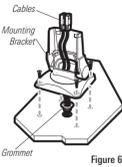

Figure 6
- 1a. If the cables must pass through a hole directly beneath the mounting bracket, mark and drill an additional 1" hole centered between the four mounting holes (Figure 5). Route the cables through the grommet, then press the grommet in place around the cables and into the 1" hole. Pass the cables out of the top of the mounting bracket (Figure 6).